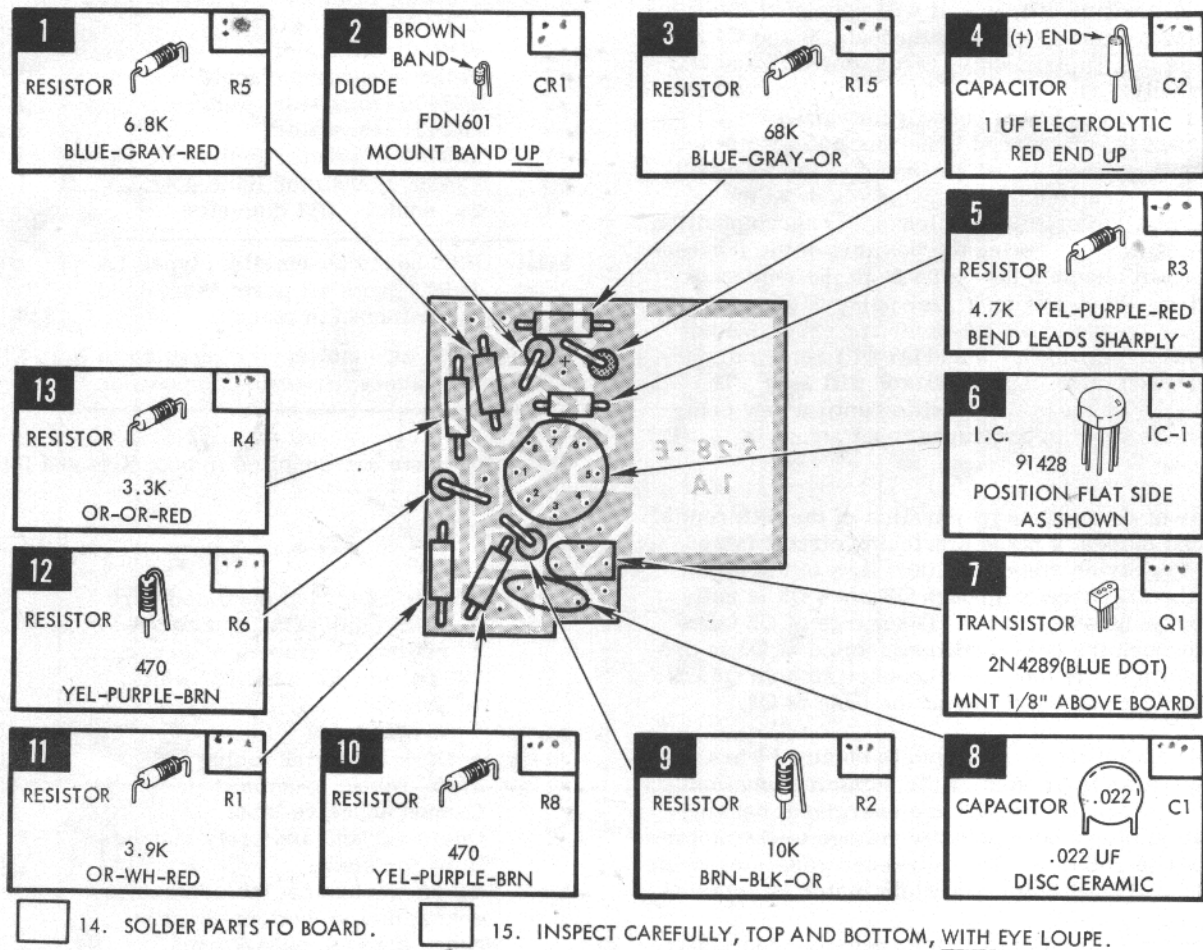
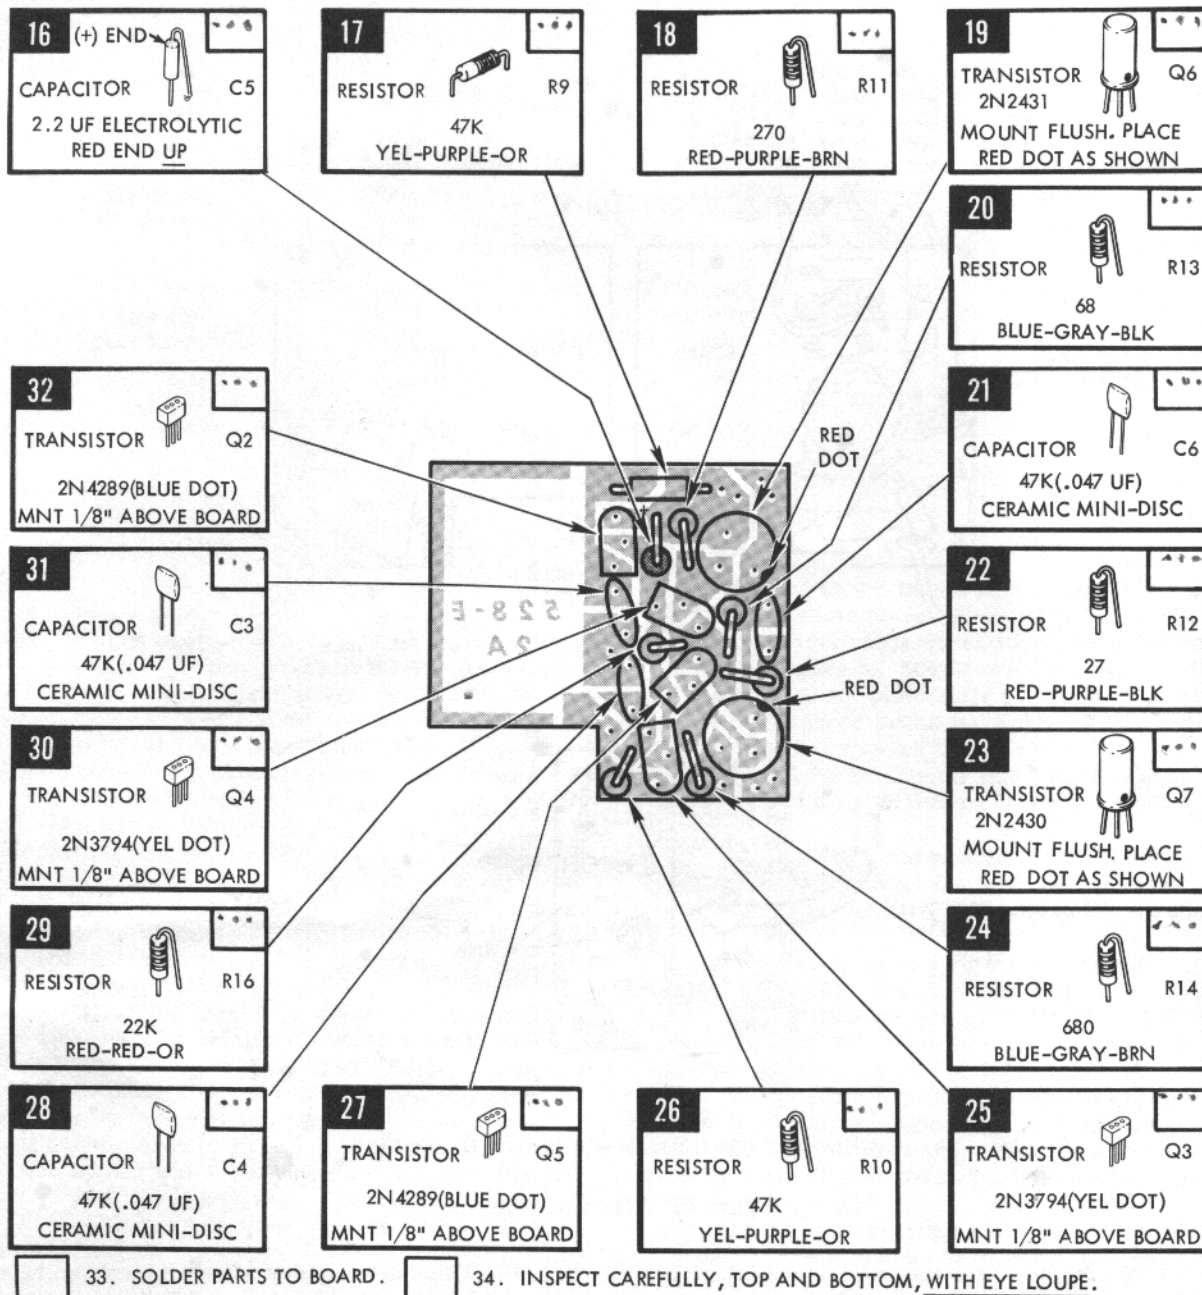

Figure 3. Assembly of Board 1A.
Figure 4. Assembly of Board 2A.
- a. Position printed circuit board 1A, metal side down, so that hole arrangement corresponds with layout in figure 3. Proceed with steps 1 through 15, then repeat process with board 2A and steps 16 through 34, figure 4. Omit steps 1 through 34 on Half-Kits.